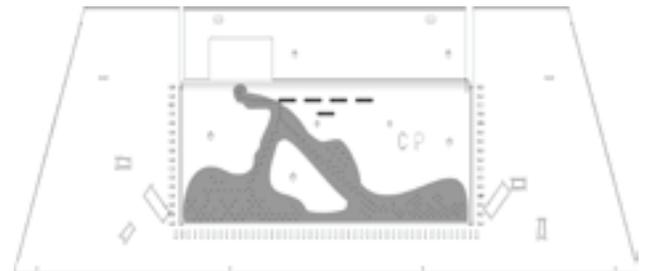

Figure 4
After placing logs into position, place dime-sized pieces of glowing embers over the burner surface. A single layer is sufficient; do not over-apply. See Figure 4.
STEP 8. This completes the placement of the logs. Place Glowing Embers in locations indicated in **Figure 4** along the circular ports. Use dime-shaped size embers. Place ember sticks and coal in area shown in **Figure 5**. Replace glass door and barrier screen as indicated in fireplace manual.
STEP 9. This completes the placement of the logs. Place Glowing Embers in locations indicated in **Figure 4** along the circular ports. Use dime-shaped size embers. Place ember sticks and coal in area shown in **Figure 5**. Replace glass door and barrier screen as indicated in fireplace manual.